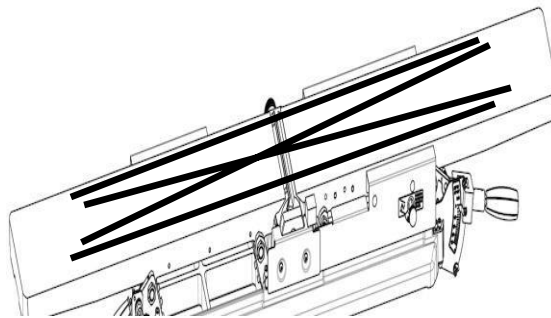

Figure 22: Checking tables for alignment
**STEP 4:** Place a straight edge across the tables in positions as shown in **FIG. 22**. In each position, the straight edge should rest flat and fit flush with both infeed and outfeed tables (not on an insert knife). If it does not, follow the steps in Outfeed Table and Infeed Table adjustments.